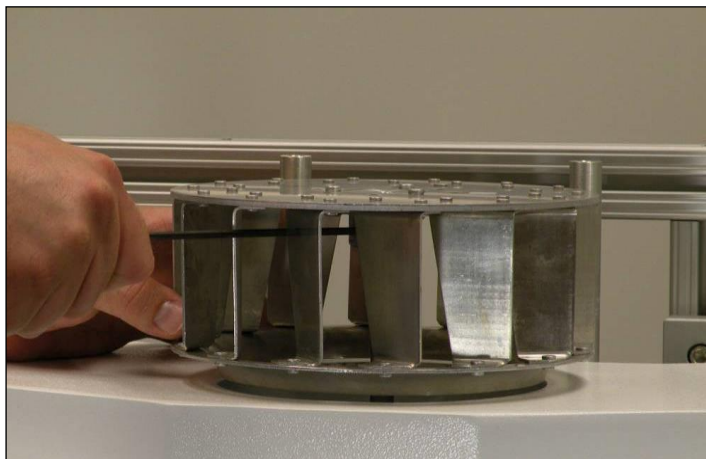

Figure 118. Loosen set screws
- Using a 1/8" ball driver, go in through the impeller blades and loosen the 2 set screws (Figure 118).